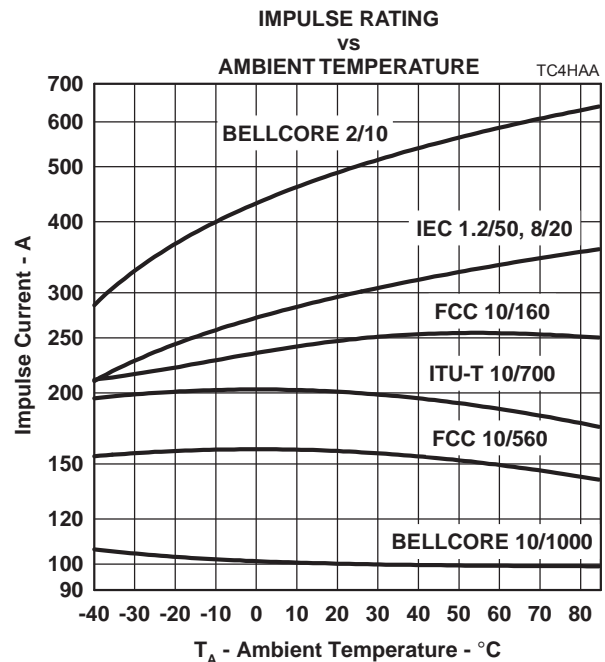

Figure 10.
4. See Figure 10 for impulse current ratings at other temperatures. Above 85°C , derate linearly to zero at 150°C lead temperature.
If the impulse generator current exceeds the protector's current rating, then a series resistance can be used to reduce the current to the protector's rated value to prevent possible failure. The required value of series resistance for a given waveform is given by the following calculations. First, the minimum total circuit impedance is found by dividing the impulse generator's peak voltage by the protector's rated current. The impulse generator's fictitious impedance (generator's peak voltage divided by peak short circuit current) is then subtracted from the minimum total circuit impedance to give the required value of series resistance. In some cases, the equipment will require verification over a temperature range. By using the rated waveform values from Figure 10, the appropriate series resistor value can be calculated for ambient temperatures in the range of -40 °C to 85 °C.